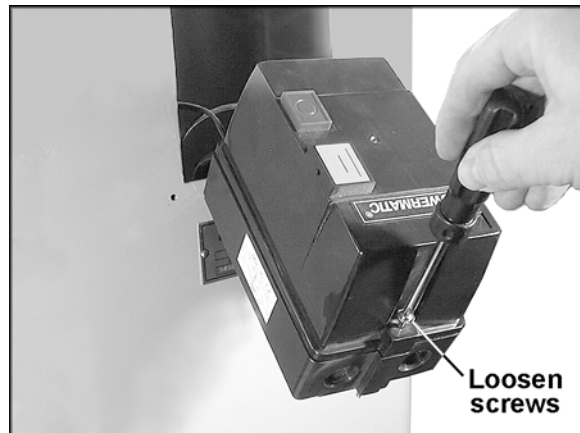

Figure 9
2. With the switch box tilted down, as shown in Figure 9, loosen the screw at each end and pull off the cover of the switch box.